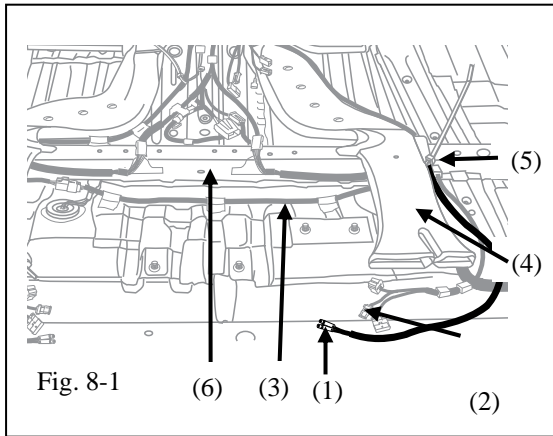

Fig. 8-1
(1) Align the red and green connectors (1) on one end of the extension harness with the connectors (2) of the existing vehicle harness under the passenger seat location. (Fig. 8-1)
(2) Route the extension harness (3) under the ventilation duct (4) toward the front of the vehicle. Secure the harness with one cable tie (5) at the point where the vehicle harness (2) crosses under the ventilation duct through the channel (6). (Fig. 8-1)